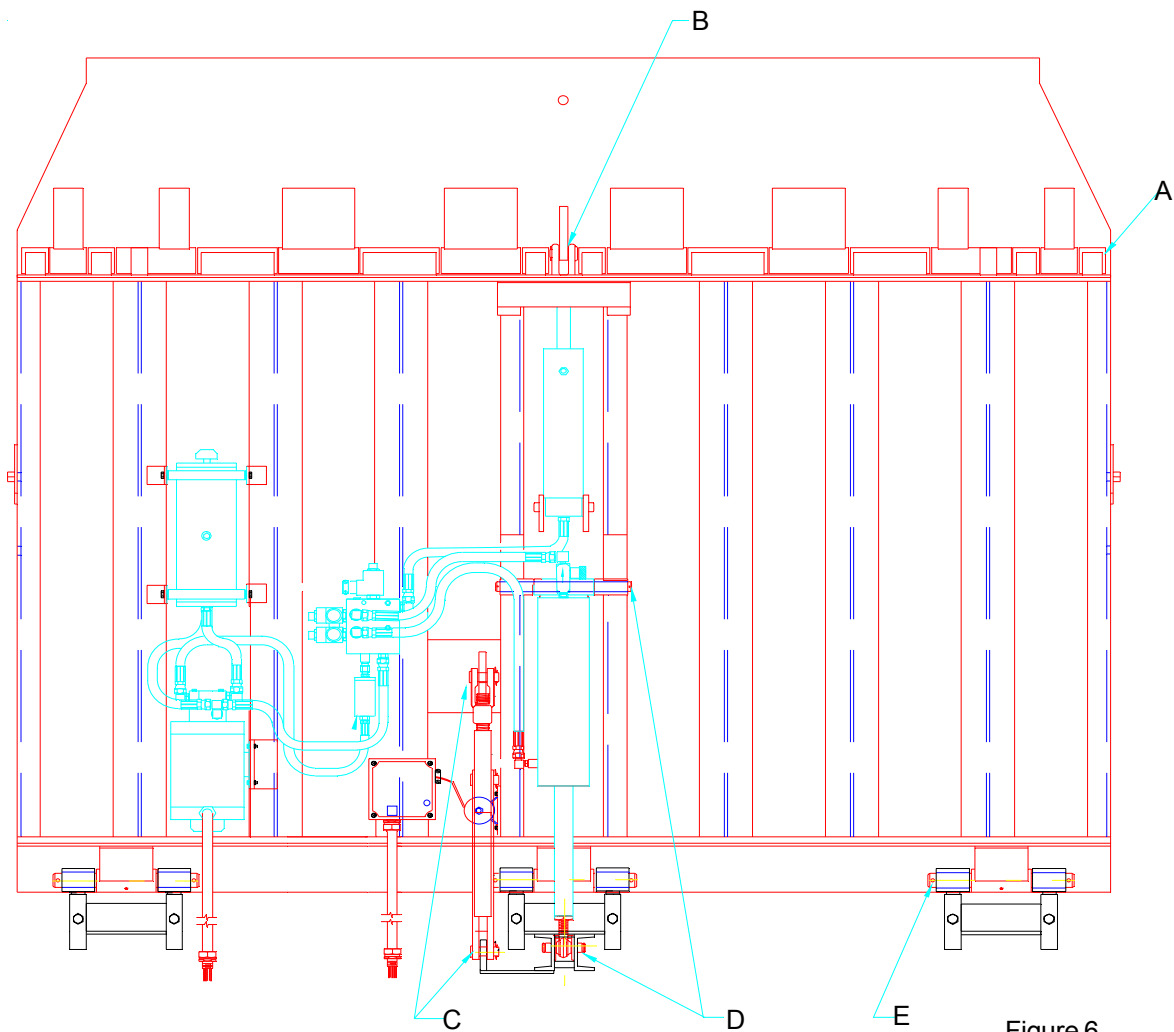

Figure 6
1. Lubricate as shown on lube chart figure 6, page 11.